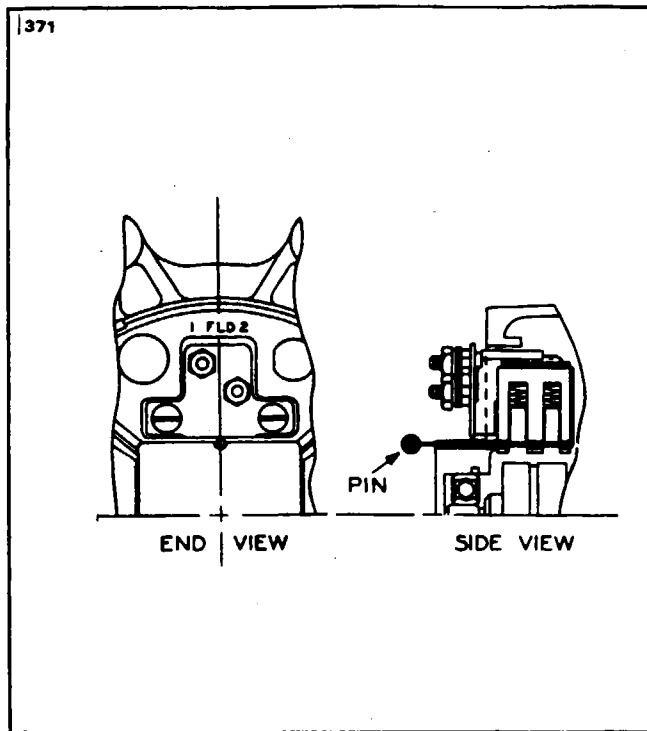

Figure 11-47. Brush Installation
c. Brushes: These units have a separate brush holder assembly that is installed after the alternator has been assembled. The brush holder has a small hole that intersects the brush cavities. Use a pin or a piece of wire, as shown in Figure 11-47, to hold the brushes in the holder during assembly. Remove the pin after the brush holder retaining screws have been tightened. Make a continuity check to be sure the brushes are seated against the slip rings.